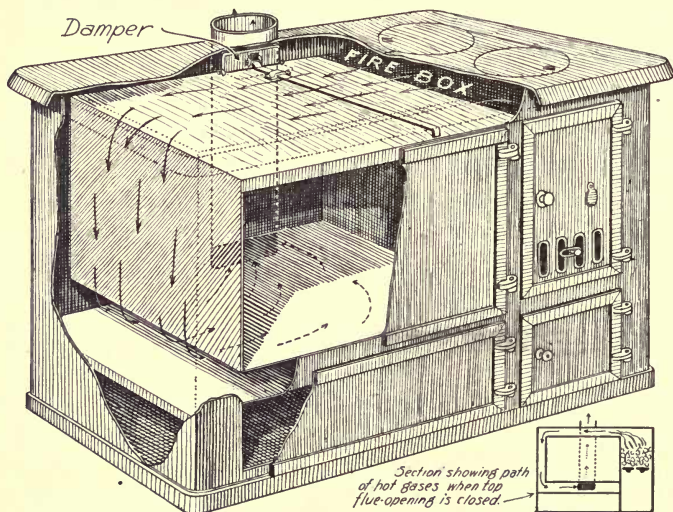

FIG. 19. — Diagram of cooking range.
**How to regulate coal fires.** Since ordinary burning is combining with oxygen, when we wish to burn coal in a stove or furnace, we must provide for a free access of air. In an ordinary range (Fig. 19) the air is drawn up through the grate bars, passes through the coal, burning it, and the waste gases formed then escape through the chimney. To control the fire, dampers are provided. These partially close the passage through which the gases escape, and so diminish the amount of oxygen fed to the fire. Thus the fire burns less briskly. Closing the doors under the fire does the same thing, that is, diminishes the supply of oxygen.